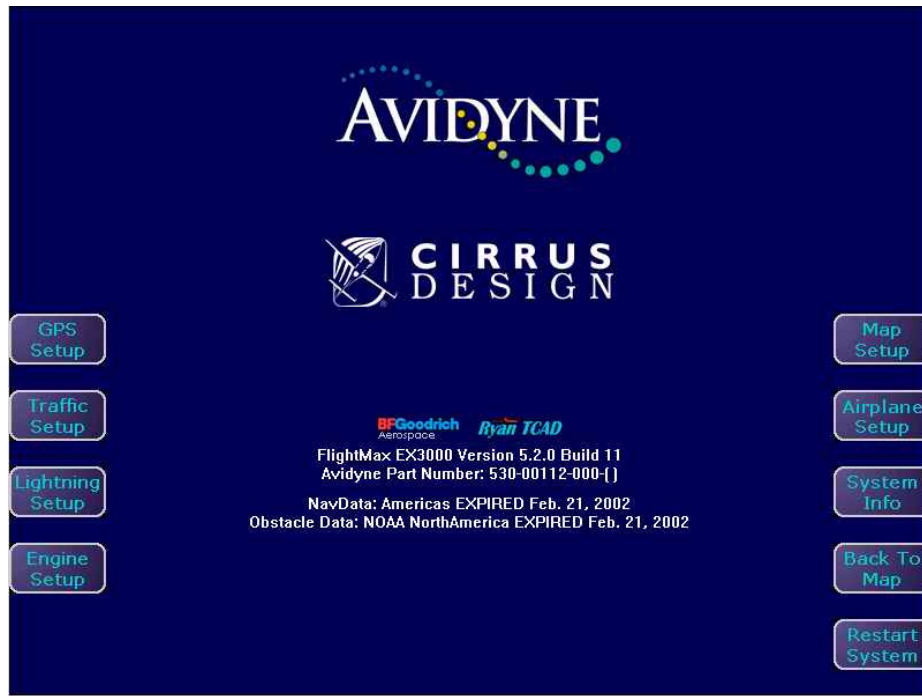

Figure 7 - Maintenance Mode Page
2. Simultaneously press and hold the top and middle left-hand bezel keys for at least 5 seconds until the maintenance page appears, which is shown in Figure 7.